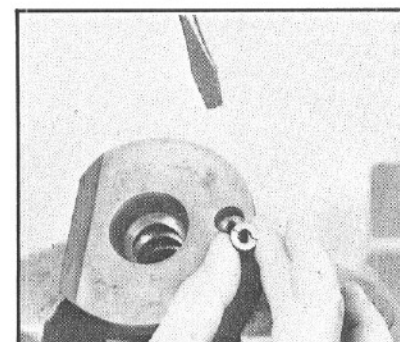
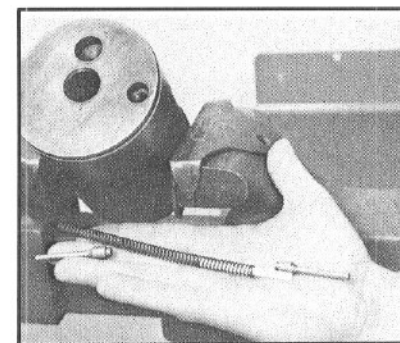
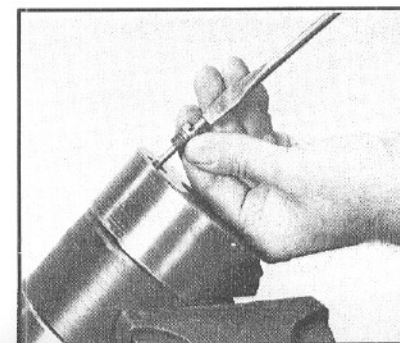

Figure 96
Figure 97
Figure 98
- a. one poppet seat (33), (FIG. 96),From the other end of the poppet hole in the piston, install:
- b. one poppet (34),
- c. the poppet spring (36),
- d. the nylon spacer rod (35), (FIG. 97),
- e. the other poppet (34), and
- f. the other poppet seat (33) (FIG. 98).Torque the poppet seats to 25-30 ft. lbs. Install both retaining rings (32).